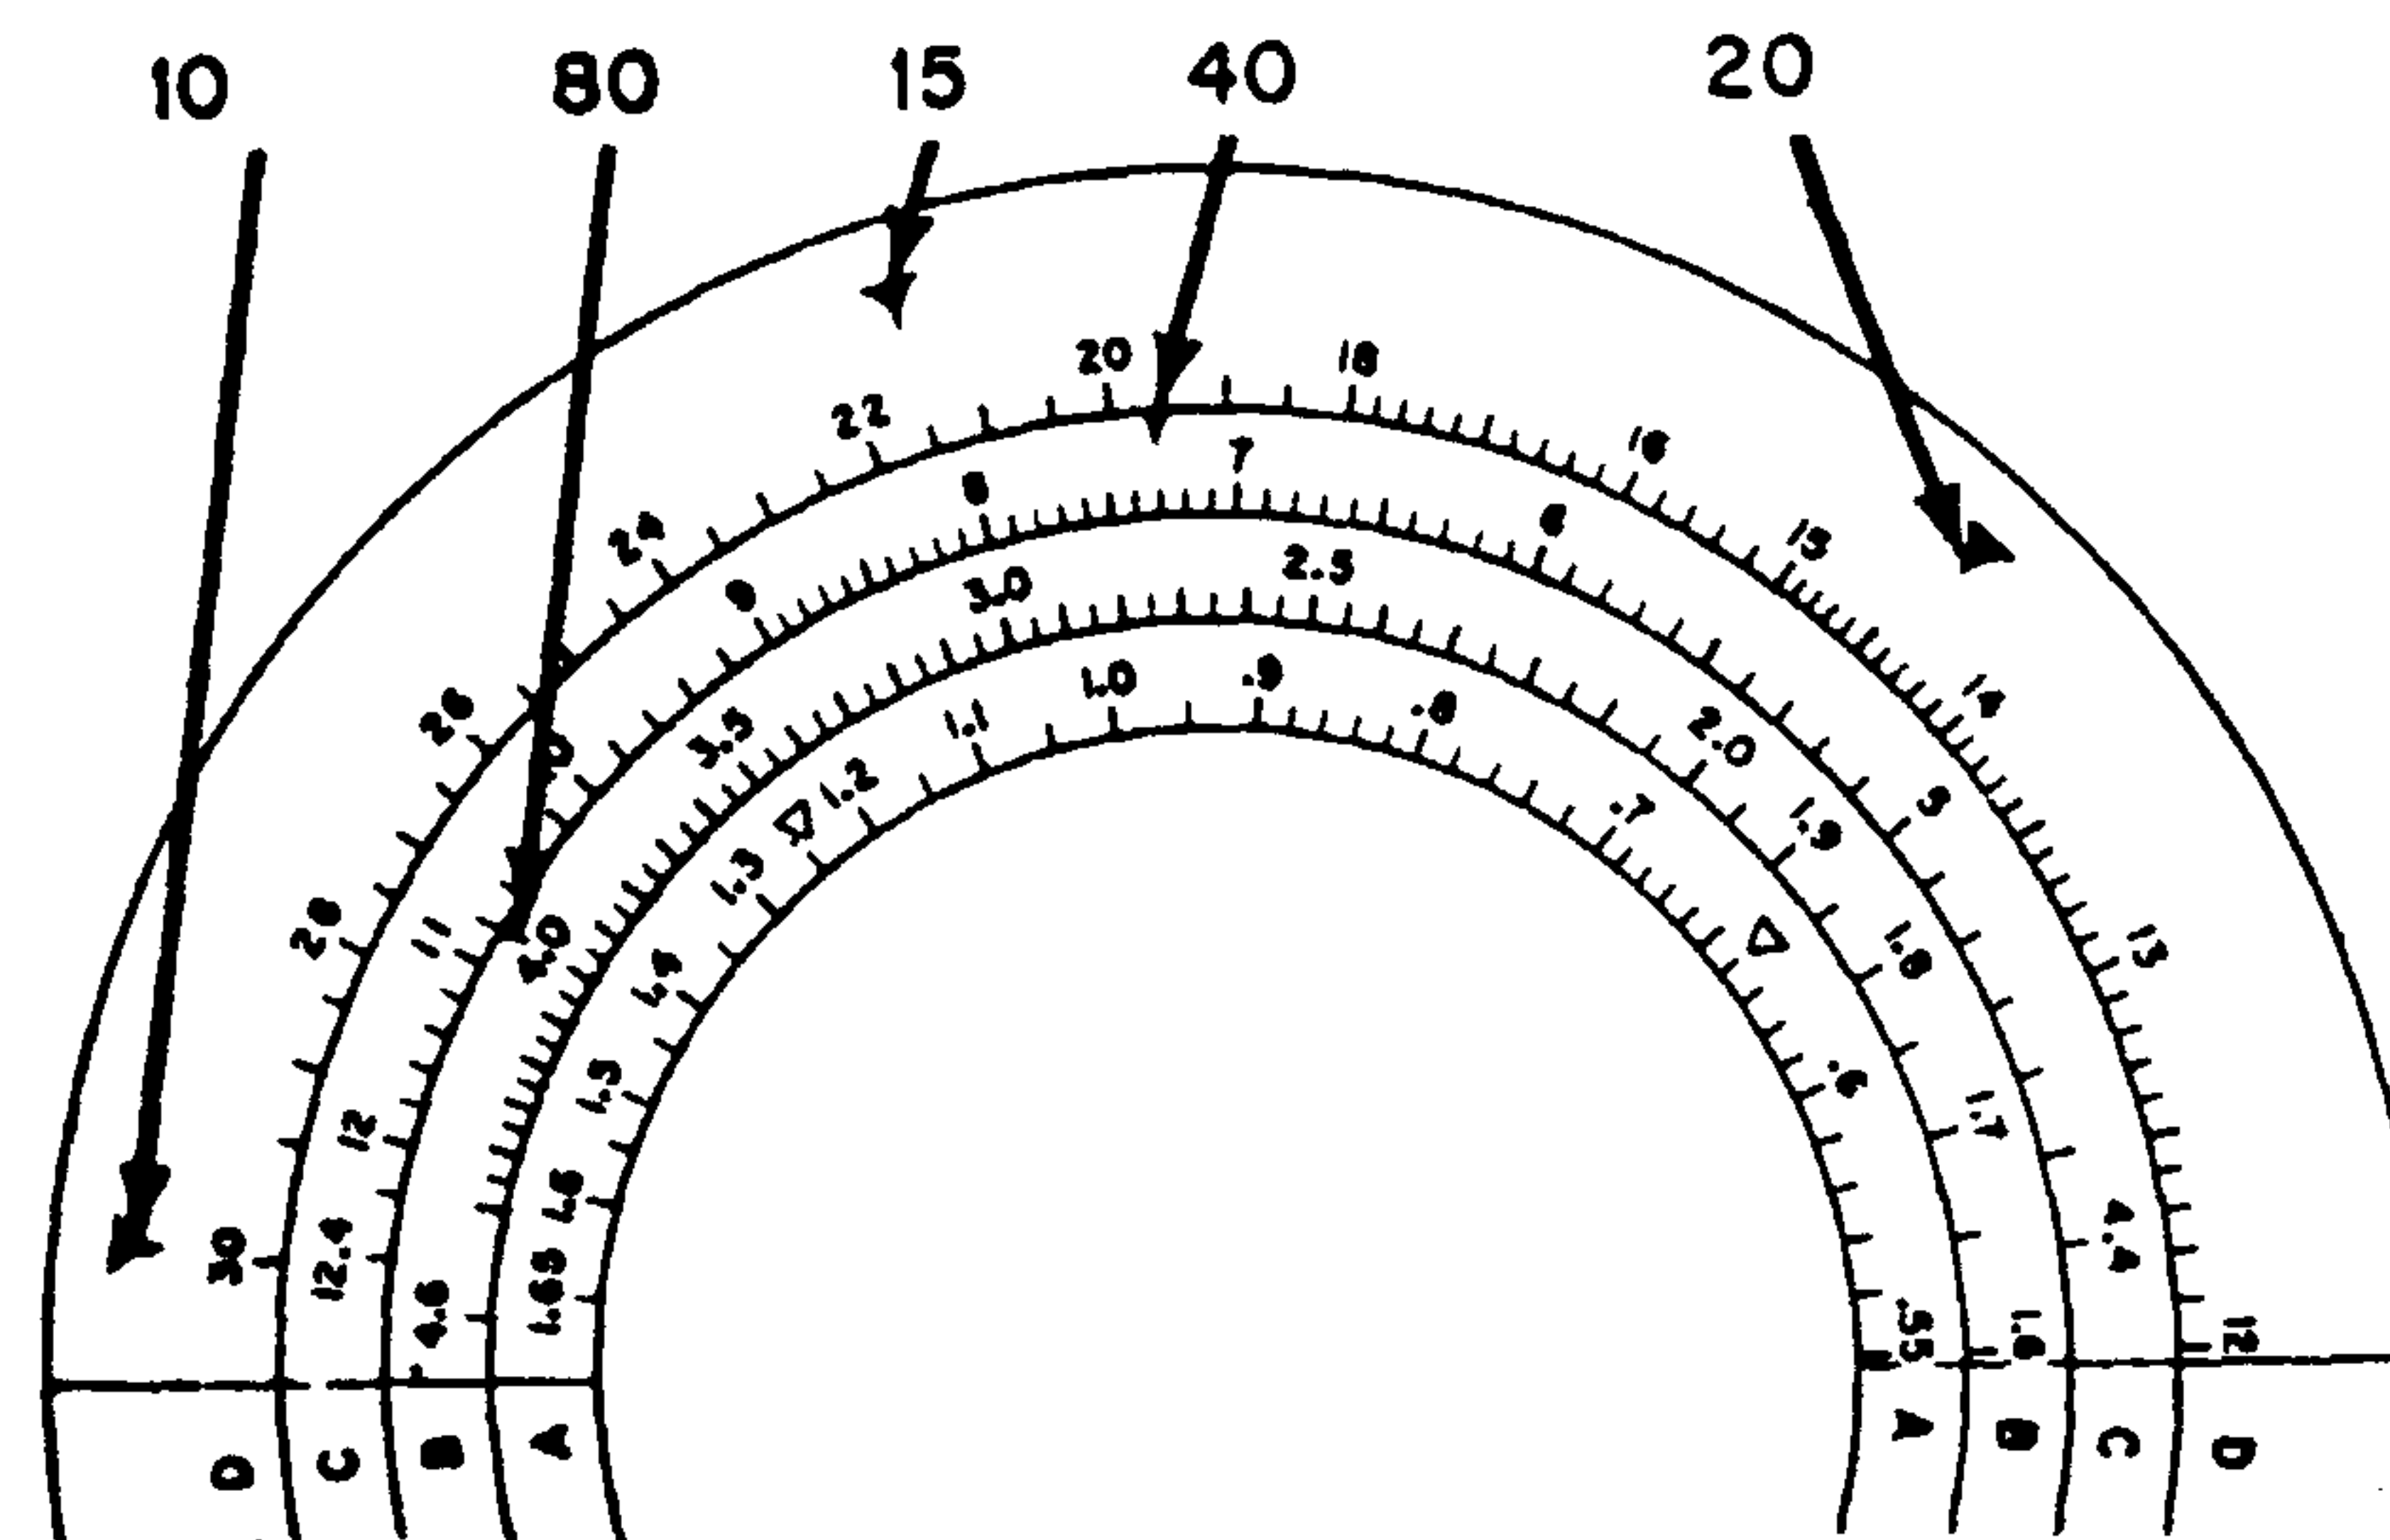

FIGURE 26. AMATEUR BAND INDEX MARKS (MAIN TUNING DIAL)
**MAIN TUNING:** Turn dial to desired station. For Amateur phone reception, set the MAIN TUNING dial at the index mark for the desired Amateur band. Notice the index marks that are identified on Figure 26. The BAND-SPREAD calibrations for the Amateur bands are accurate only when the MAIN TUNING dial is set to the mark for the band in use.